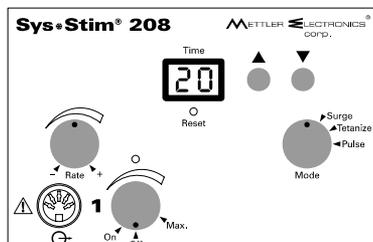

Figure 3.2— Sys*Stim 208, Front View—Electrode Cable Connection
4. Plug the electrode cable (ME 2260) into the electrode cable jack as seen in Figure 3.2.